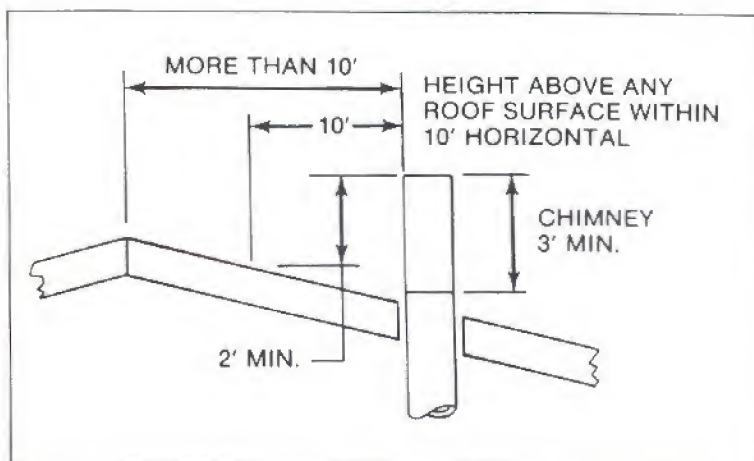

Figure 10
2. If the horizontal distance from the side of the chimney to the peak of the roof is more than 10 feet, a chimney height reference point is established on the surface of the roof a distance of 10 feet from the side of the chimney in a horizontal plane. The top of the chimney must be at least 2 feet above this reference point, but never less than 3 feet in height above the highest point where it passes through the roof. See Figure 10.